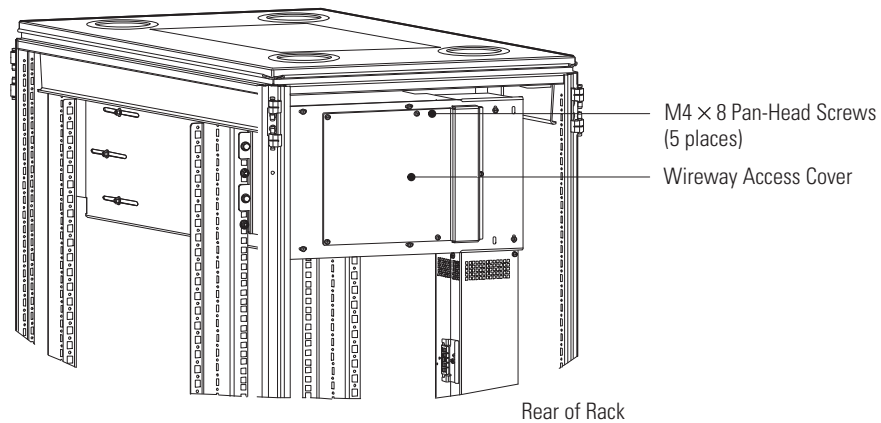

Figure 18. Wireway Access Cover Installation
22. Using five M4 x 8 pan-head screws, install the wireway access cover. See Figure 18. Torque the screws to $1.7 \pm 0.2 \text{ Nm}$ ($15 \pm 2 \text{ lb in}$).